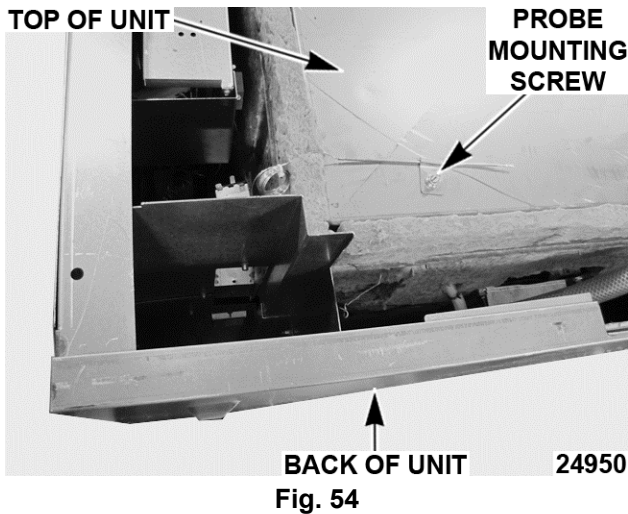

Fig. 54
**NOTE:** Top panel removed in photo (Fig. 54) for clarity. High-limit thermostat probe is located on top of unit, under insulation.